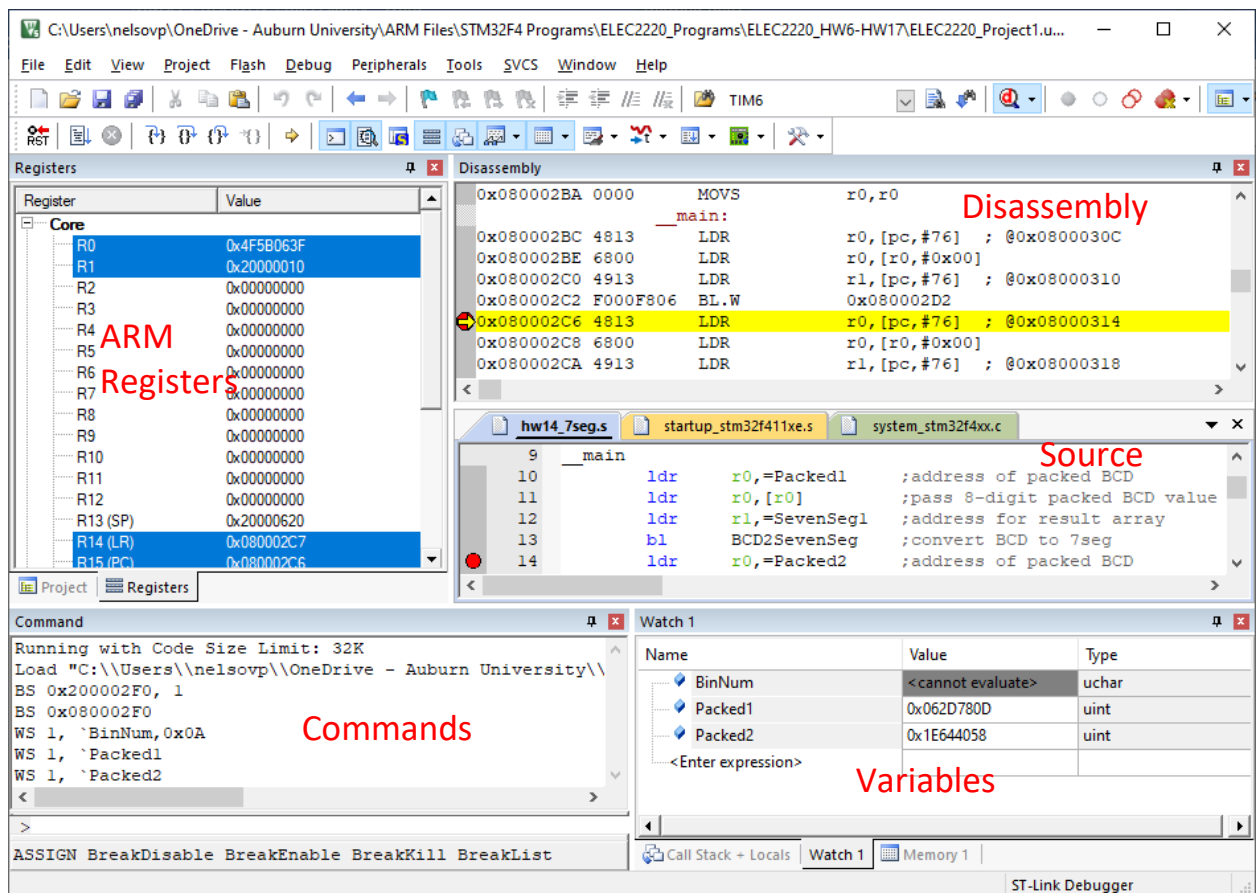

Figure 9. MDK uVision Debug Window.
10. A **debug initialization file** is useful to set up any desired initial register and memory values and other debug options when the debugger is first opened. This is a plain text file that contains one or more debugger commands; these commands may also be entered in the Debugger's Command Window (see Figure 9).
- The second line initializes the program counter (PC) to the address of the first instruction to be executed. This will normally be the first byte of flash memory at address 0x08000000. **If using the device startup code, the initial PC will be loaded from a vector table and therefore this debug command should be removed.**
11. To initiate a debug session, click the **Debug** icon in the *μVision* window (Figure 4), or select **Debug → Start/Stop Debug Session**. Depending on how you set up the debug options, this will open the Debug Window (Figure 9) after: